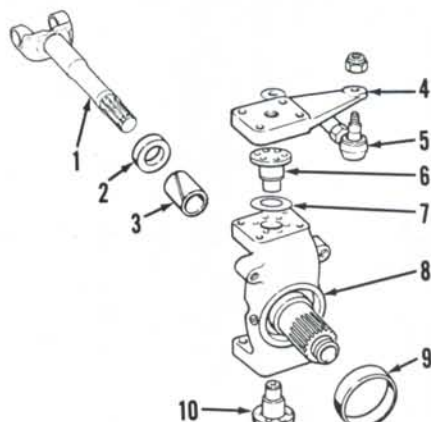
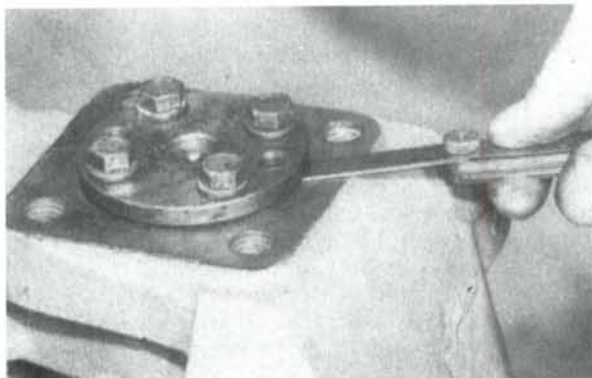

Fig. 8—Exploded view of David Brown front drive stub axle showing component parts and their relative positions.
Fig. 9—To set bearing pin preload, use a feeler gage to measure gap between bearing pin flange and stub axle housing. Refer to text.
10. FINAL DRIVE AND STUB AXLE. Left and right final drive removal procedure is similar. To remove, raise and support side to be serviced and remove tire and wheel. Rotate hub so drain plug is at bottom and drain fluid. Remove end plate (12—Fig. 7) and use pry bars to pull sun gear (15) and shaft (1—Fig. 8) out approximately 5 mm ($\frac{3}{16}$ inch).
Remove steering lever (4—Fig. 8) and bolts retaining upper and lower bearing pins (6 and 10). Remove bearing pins
Remove seal (2—Fig. 8) from inside stub axle (8). Using a suitable bushing driver, drive bushing (3) out oil seal end of stub axle. Install new bushing from seal end until it seats in stub axle. Install new oil seal with lip of seal entering bore first.
To set bearing pin preload, reassemble unit minus shims (7—Fig. 8). Tighten lower bearing pin mounting bolts to 68 N·m (50 ft.-lbs.) torque and upper bearing pin mounting bolts to 20 N·m (15 ft.-lbs.) torque. Push stub axle up tight against bottom of axle housing and use a feeler gage to measure gap between upper bearing pin flange and stub axle. See Fig. 9. Remove upper bearing pin, then assemble shims so total thickness is 0.381 mm (0.015 inch) less than feeler gage measurement. This will correctly preload bearings to 0.10-0.15 mm (0.004-0.006 inch) when full load is on axle. Tighten upper bearing pin bolts to 68 N·m (50 ft.-lbs.) torque. Refer to paragraph 11 to set stub axle bearing preload.